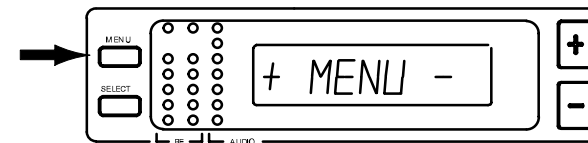

FIGURE 11
2. Press the MENU button. The "+ MENU -" display will appear, as shown in Figure 11.